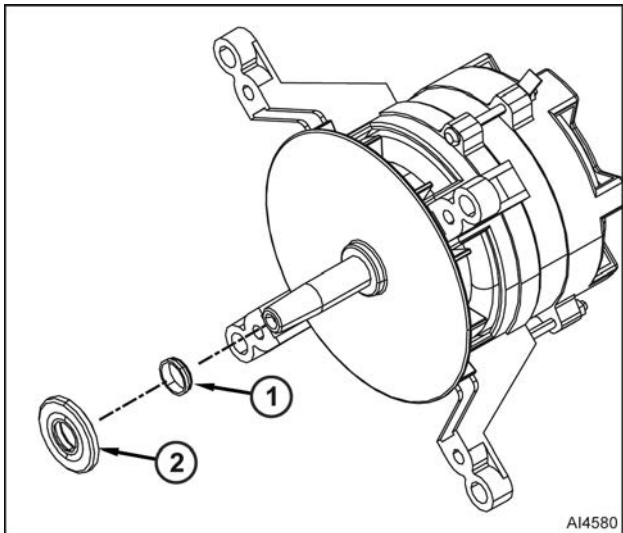

**Fig. 28**
4. Disconnect connector from motor harness connector (Fig. 28).